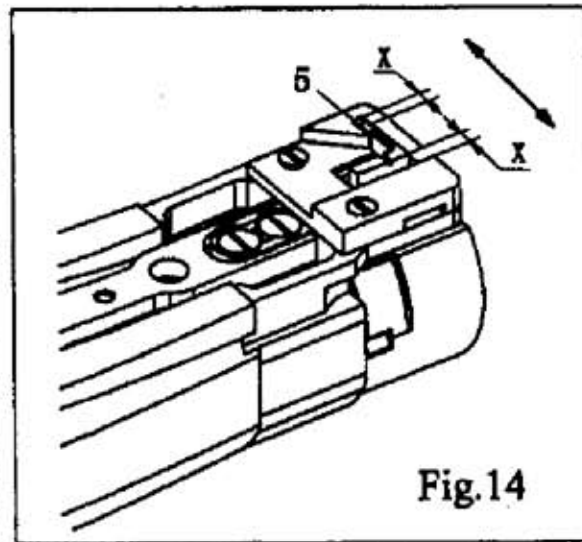
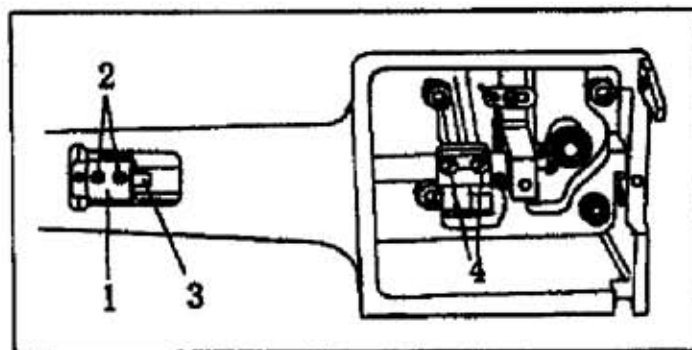

Fig.14
Fig.15
② Positioning the feed dog in the direction of sewing (Fig.14 Fig.15)